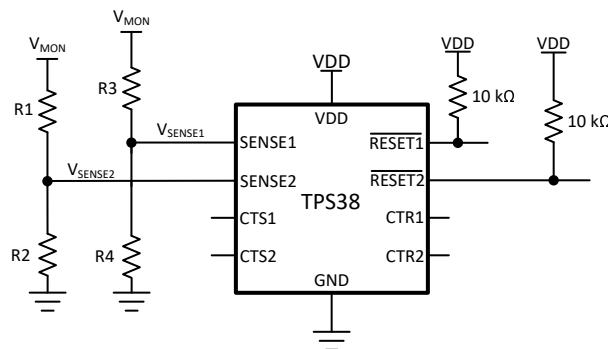

图 8-10. Adjustable Voltage Threshold with External Resistor Dividers
For example, consider a 12 V rail being monitored  $V_{MON}$  for undervoltage (UV) using channel 1 of the TPS38A010122DSKR variant. Using 方程式 7 and shown in 图 8-10,  $R_1$  is the top resistor of the resistor divider that is between  $V_{MON}$  and  $V_{SENSE2}$ ,  $R_2$  is the bottom resistor that is between  $V_{SENSE2}$  and GND,  $V_{MON}$  is the voltage rail that is being monitored and  $V_{SENSE2}$  is the input threshold voltage. The monitored UV threshold, denoted as  $V_{MON-}$ , where the device will assert a reset signal occurs when  $V_{SENSE2} = V_{IT-(UV)}$  or, for this example,  $V_{MON-} = 10.8V$  which is 90% from 12 V. Using 方程式 7 and assuming  $R_2 = 10k\Omega$ ,  $R_1$  can be calculated shown in 方程式 8 where  $I_{R1}$  is represented in 方程式 9: